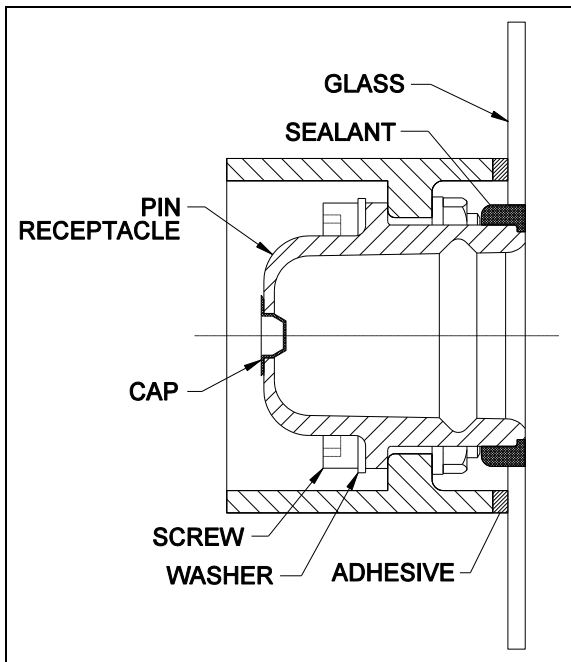
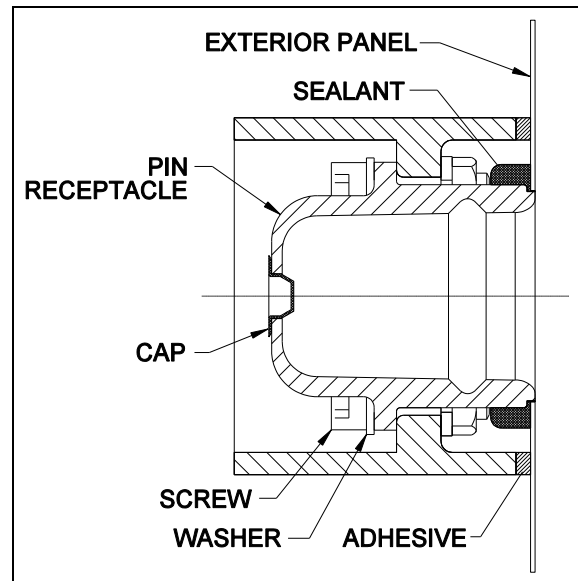

FIGURE 15 : PIN RECEPTACLE ON GLASS
FIGURE 16 : PIN RECEPTACLE ON STAINLESS STEEL PANELS
7. Apply black Sika 222 UV or equivalent product on the glass surface contact with the pin receptacle (figure 15), and black Sika 221 or equivalent product on the panel surface contact with the pin receptacle (figure 16).